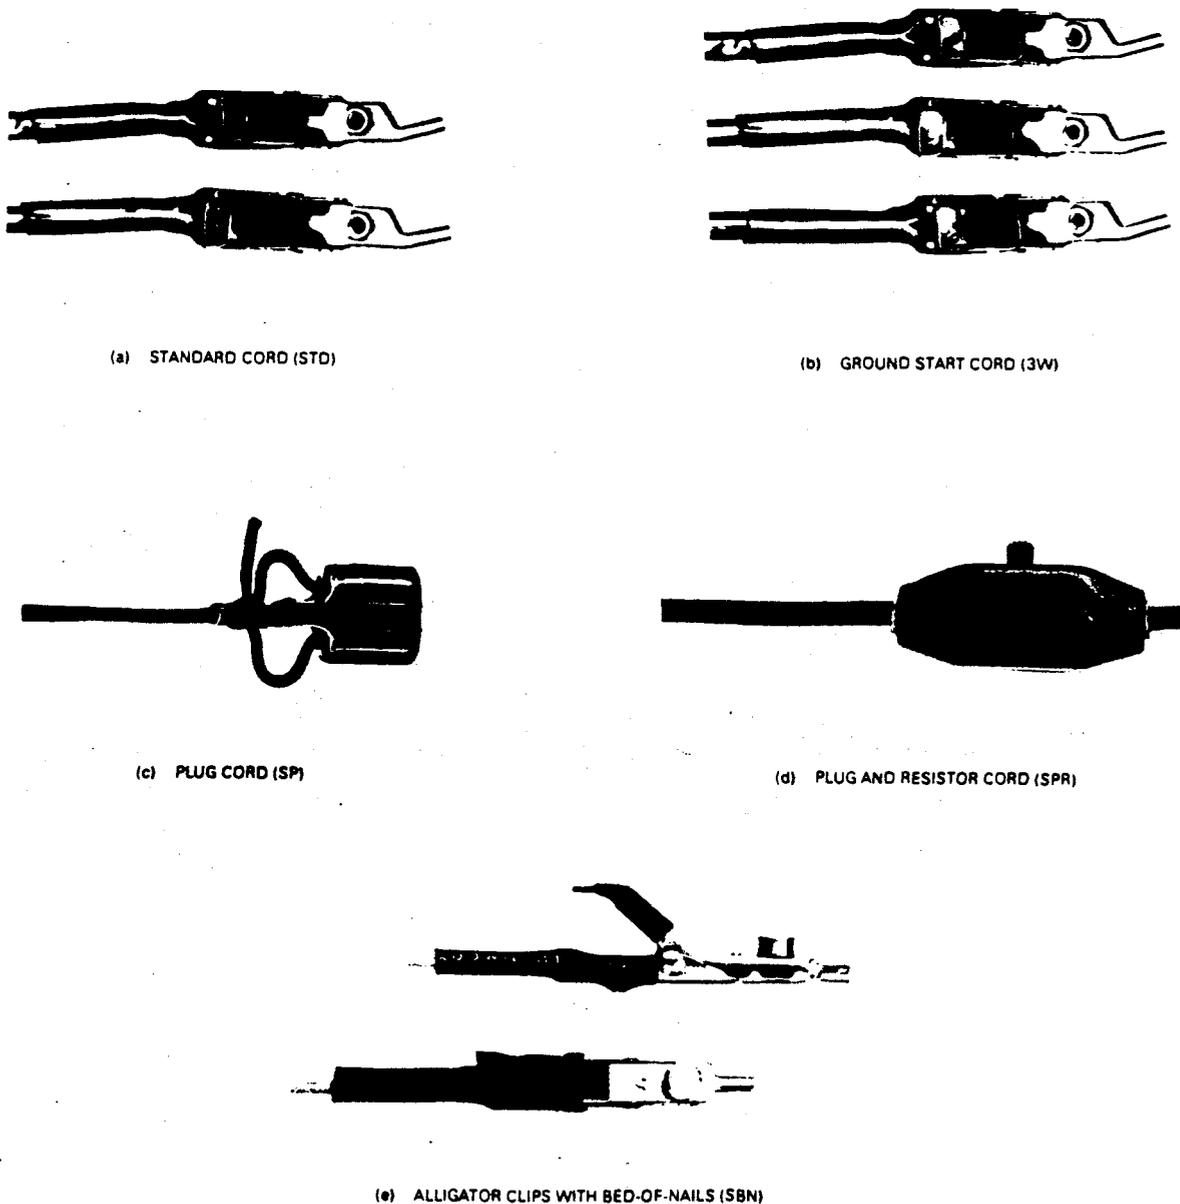

Fig. 4—TS21 Cord Assemblies
1. Standard Cord (STD): This cord is approximately five-feet long and consists of one red and one black fabric-covered tinsel conductor. Each conductor is fitted with an alligator clip which is offset 20 degrees to minimize clip shorting. The thumb handle and top of each clip is covered with an insulating material. The clips contain insulation-piercing spikes. See Fig. 4 (a).
2. Ground Start Cord (3W): This cord is approximately five-feet long and consists of one red, one black and one green fabric-covered tinsel conductor. Each conductor is fitted with an alligator clip of the same type found on the standard cord. Pressing the optional ground-start button connects the green (ground) conductor to the red (ring) conductor inside the test set. See Fig. 4 (b).
3. Plug Cord (SP): This cord is approximately one-foot long and is fitted with a 346A male plug. This allows the test set to be used with a variety of different test cords equipped with a matching 471A female connector. See Fig. 4 (c).
4. Plug and Resistor Cord (SPR): This cord is approximately one-foot long and is fitted with a 346A male plug and a detachable 1500-ohm resistor. When switched in, the resistor is inserted in series with the ring side of the cord to simulate a long loop condition. See Fig. 4 (d).
This cord is identical to the standard cord except that each alligator clip is equipped with a bed-of-nails in addition to the insulation-piercing spike, and the clips are not off-set as are the clips on the standard cord. See Fig. 4 (e).